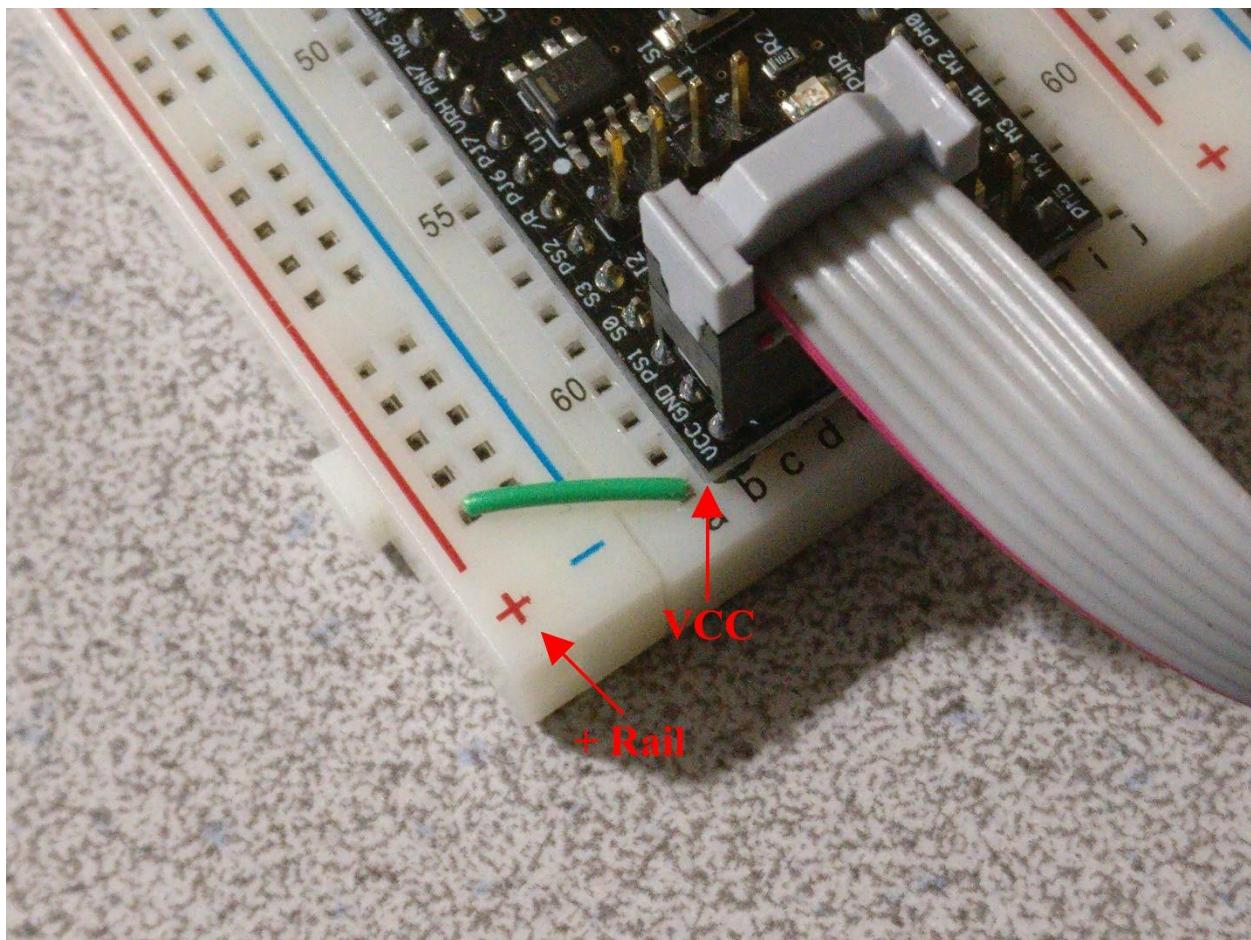

Figure 8-7 – Wire connecting VCC to the positive rail on breadboard
- b. The power rails are the four columns with straight red or blue lines next to them, along with plus or minus signs, respectively. Take one green wire and plug it into the breadboard such that one end is in the same row as VCC on the Thunderbird—also known as plugging a wire “into” VCC—and the other end in the first hole in the “+,” or positive, rail with the red line next to it. Refer to Figure 8-7 for an example of what the wiring should look like.